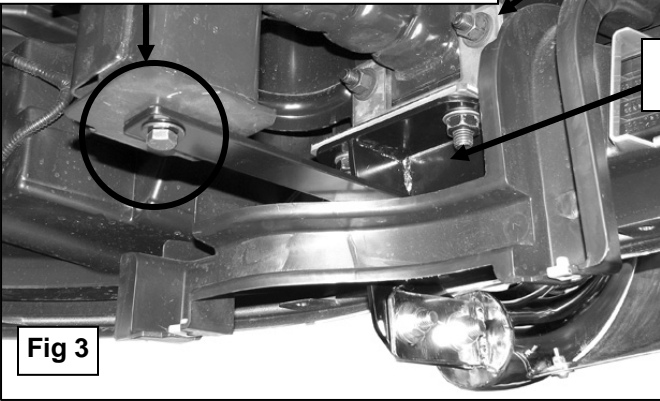

Fig 3
A. Select one of the Upper Frame Brackets and the driver side Lower Frame Mounting Bracket. Bolt the two together with (2) 12mm Flat Washers, (2) 12mm Lock Washers and (2) 12mm Hex Nuts. **NOTE:** On some vehicles, it may be easier to assemble the two-piece bracket on the vehicle, **(Figure 3)**. Snug the hardware but do not tighten at this time.
5. With help, position the Bull Bar on the inside of the Mounting Brackets. Use the included (4) 12-1.75mm x 35mm Hex Head Bolts, (4) 12mm Lock Washers, (8) 12mm Flat Washers, and (4) 12-1.75mm Hex Nuts to attach the Bull Bar to the Mounting Brackets, **(Figure 3)**. Snug but do not tighten hardware.